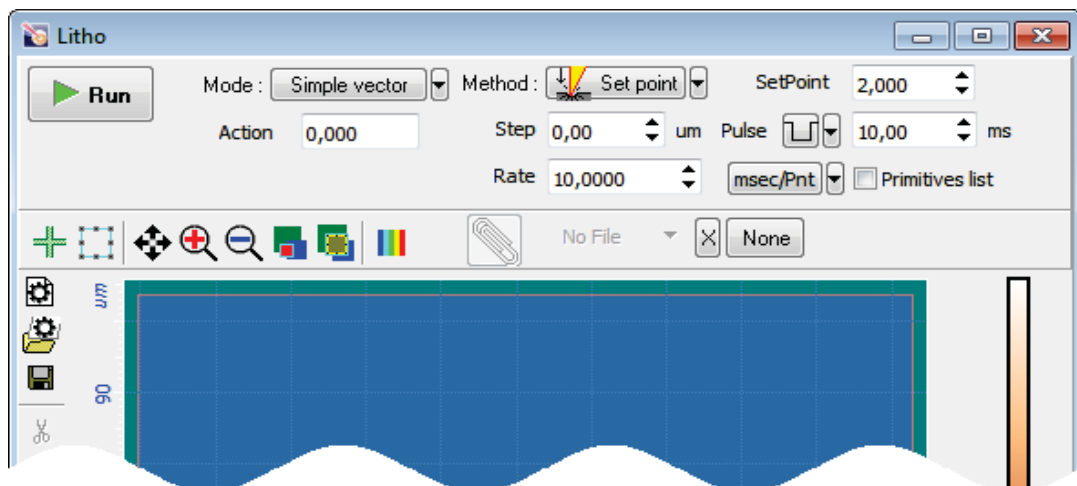

Fig. 13-12. Scanner extension progress bar
- d. Gradually increase **SetPoint** and monitor Z-scanner extension in the progress bar located in the Main Operations panel (Fig. 13-12). For the **SetPoint**, enter a value at which extension of the Z-scanner stops.